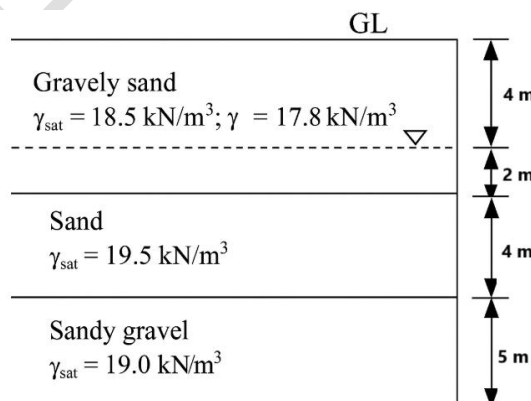

Figure 5. Subsoil Profile
- a) **Figure 5** shows a 15 m deep soil profile consisting of three distinct layers below the ground level (GL).